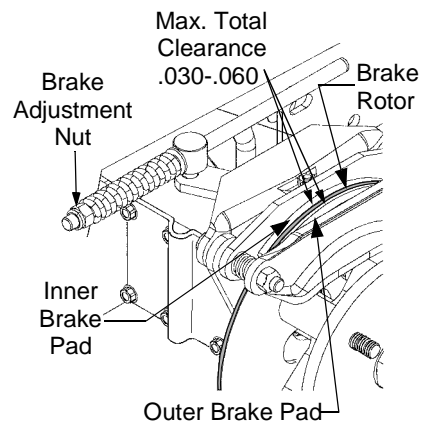

Figure 15
NOTE: Figure 15 is shown with the right rear wheel removed for clarity. Although not necessary for adjustment, removal of the wheels will ease the checking procedure.
- Accessing the brake adjustment nut from the rear of the tractor, beneath the fender, turn the nut clockwise to tighten and counterclockwise to loosen the brake assembly. See Figure 15.